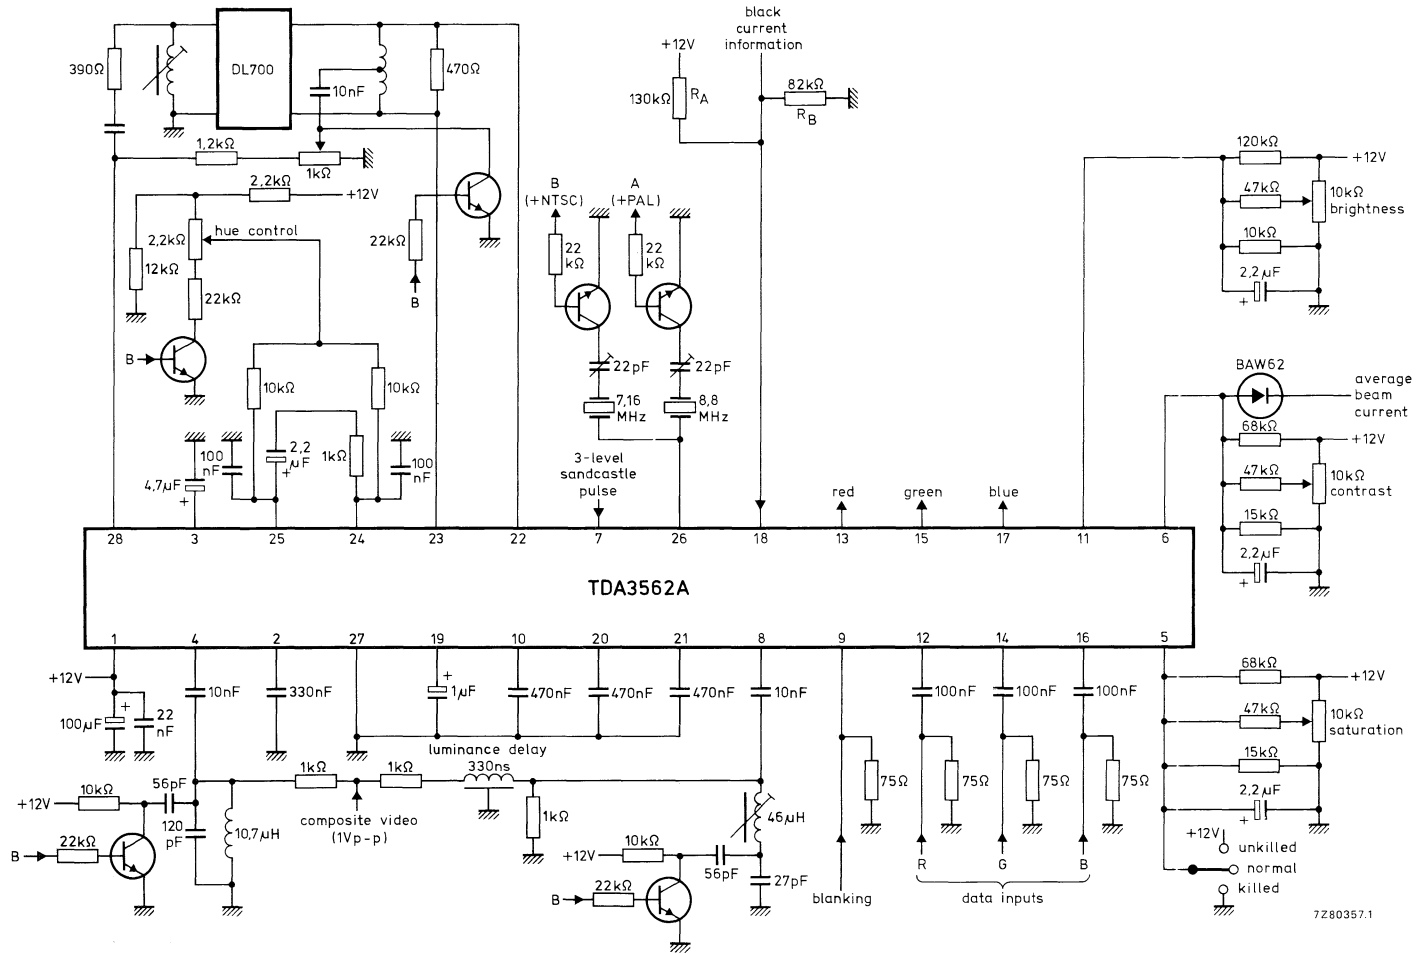

Fig. 8 Application diagram showing the TDA3562A for a PAL/NTSC decoder.
12. The voltage at pins 24 and 25 can be changed by connecting the load resistors ($10\ \text{k}\Omega$ in this application) to the slider bar of the hue control potentiometer (see Fig. 8). When the transistor is switched on, the voltage at pins 24 and 25 is reduced below 9 V, and the circuit is switched to NTSC mode.